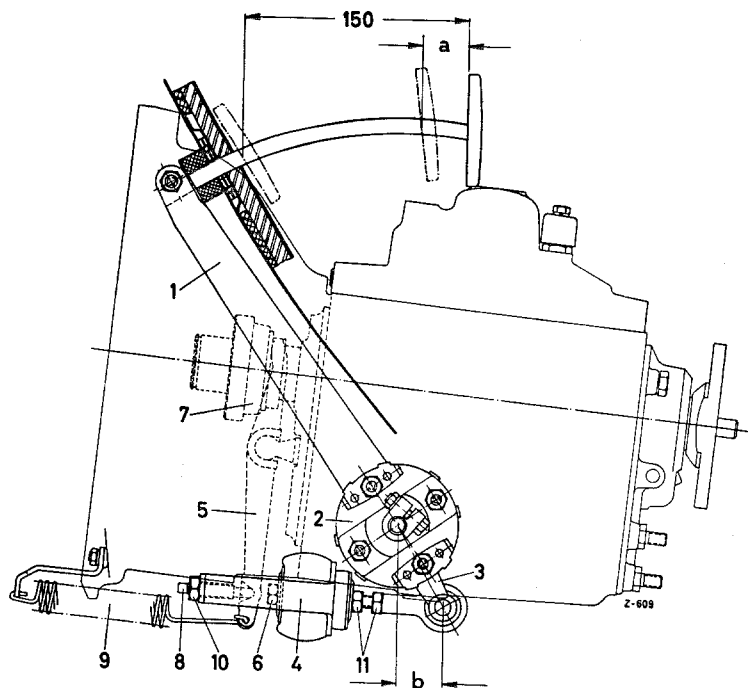

Fig. 29-5/4
10. Install the clutch pedal shaft from the inside on the splines of the flange (8) and tighten the flange with the clamping screw (7) (Fig. 29-5/1).
12. Slide the relay lever (3) on the splines of the pedal shaft and check the position of the relay lever. The distance from center bolt of the relay lever to center clutch pedal shaft should be "b" = 32 ± 4 mm in the case of Models 180, 180 D, and 190 SL and "b" = 29 ± 4 mm in the case of Model 220 a. The clutch pedal (1) should always rest against the rubber stop. The distance "b" can be varied by changing the position of the relay lever (3) on the splines of the clutch pedal shaft (see Fig. 29-5/4).